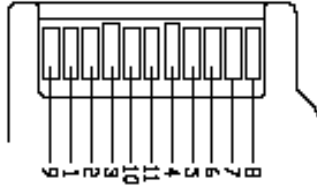

Fig 4 – miniSD Card Pin Designation
- Fig 4 - miniSD Card Pin Designation